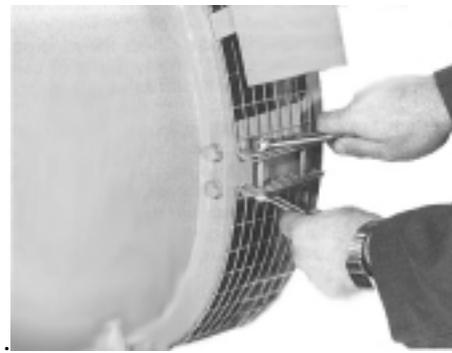

Figure 6-3
5. For single bearing generators, remove the bolts mounting the screen assembly to the SAE adapter and remove the screen. (Figure 6-3.)